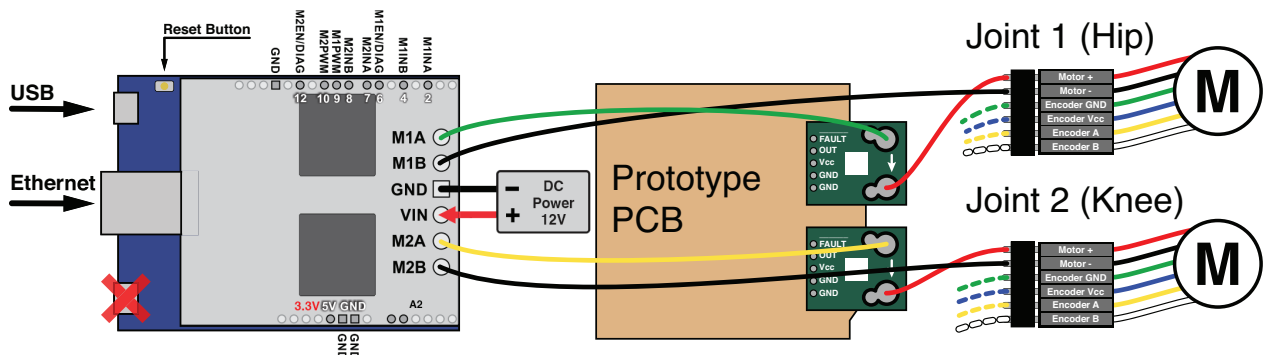

Figure 4: Wiring diagram of 2 Dof leg.
- (b) Connect the hip and knee motors to the connectors of the prototype PCB correspondingly as shown in Fig. 4.